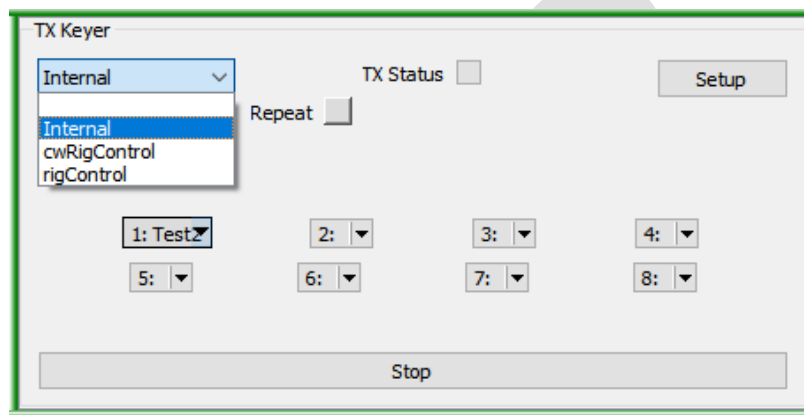

Figure 120 – TX Keyer panel in Logger
Having added the Keyer panel to the Logger screen layout (see section 3.5), the pulldown list at top left allows selection of the method to be used (Figure 120):
- “**Name**” is what is displayed on the button (Figure 120).